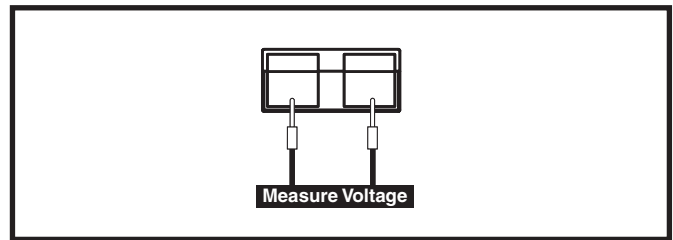
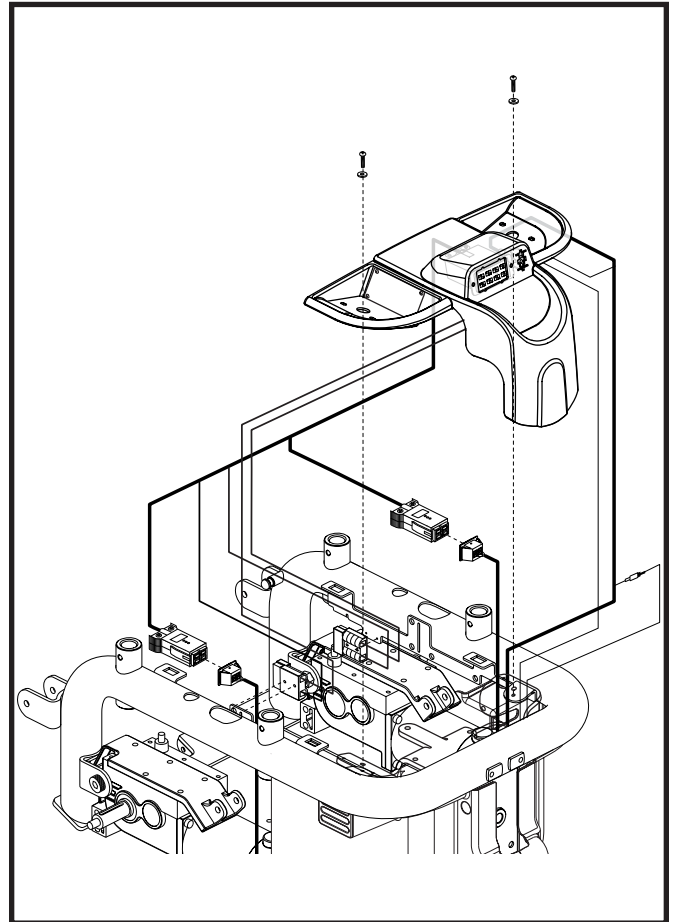

Figure 5. Connector 6a (also connector 7a)
Figure 6. Jazzy 1121 Electronics Tray Assembly/Disassembly
9. Measure voltage across pin 1 and pin 2 on connector 6a. **See figure 5.**
- If your multimeter indicates a different voltage (by at least 0.2VDC), then replace the rear battery harness (6) and retest the system.
11. Measure voltage across pin 1 and pin 2 on connector 7a. **See figure 5.**
- If your multimeter indicates a different voltage (by at least 0.2VDC), then replace the front battery harness (7) and retest the system.
12. Unscrew the electronics tray assembly and lift it off of the 1121 frame. **See figure 6.**